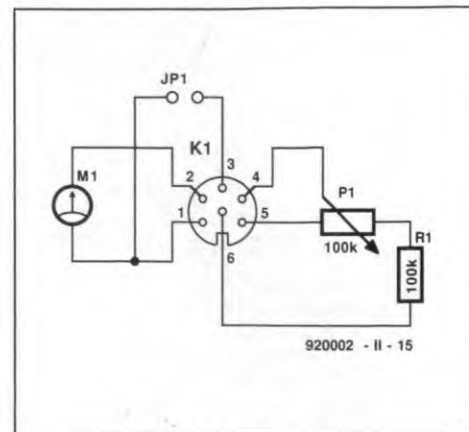

Fig. 18. ADC/DAC test circuit.
6. Fit IC11 (AD7569), and connect a 100-k Ω potentiometer and a multimeter to K1, as shown in Fig. 18.